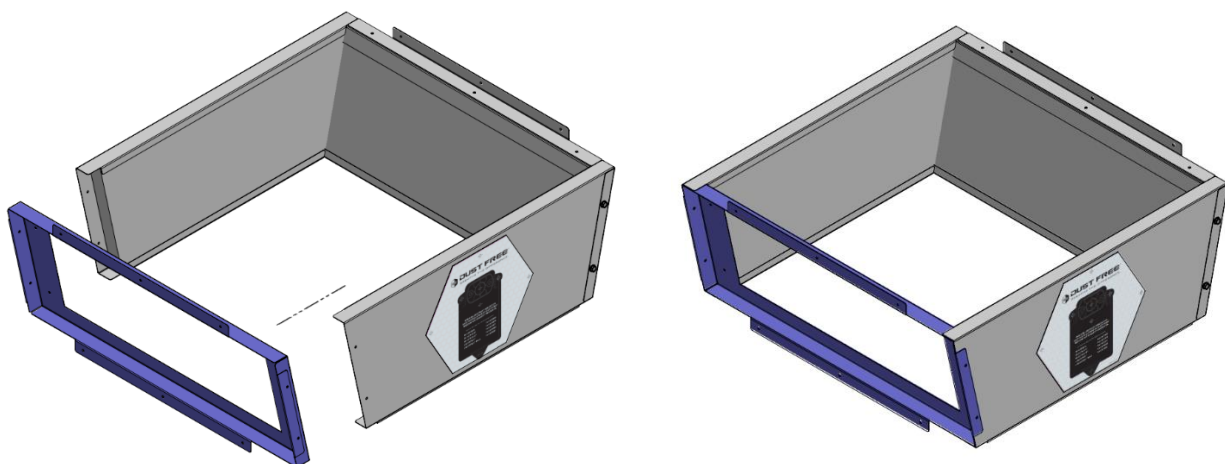

Figure 7: Door frame and unit alignment and assembly.
6. Remove the door from the door frame. Align and insert the door frame into the side panels, with flanges outside the side panel as shown in **Figure 7**.